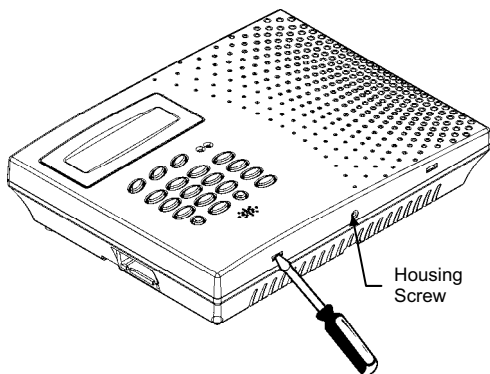

Figure 2.4: Opening the Housing
3. Using a screwdriver carefully press the release tabs as shown in Figure 2.4.
7. Connect the small flat cable between the GSM800 PCB (5) and the Control Panel (Main Board) PCB.